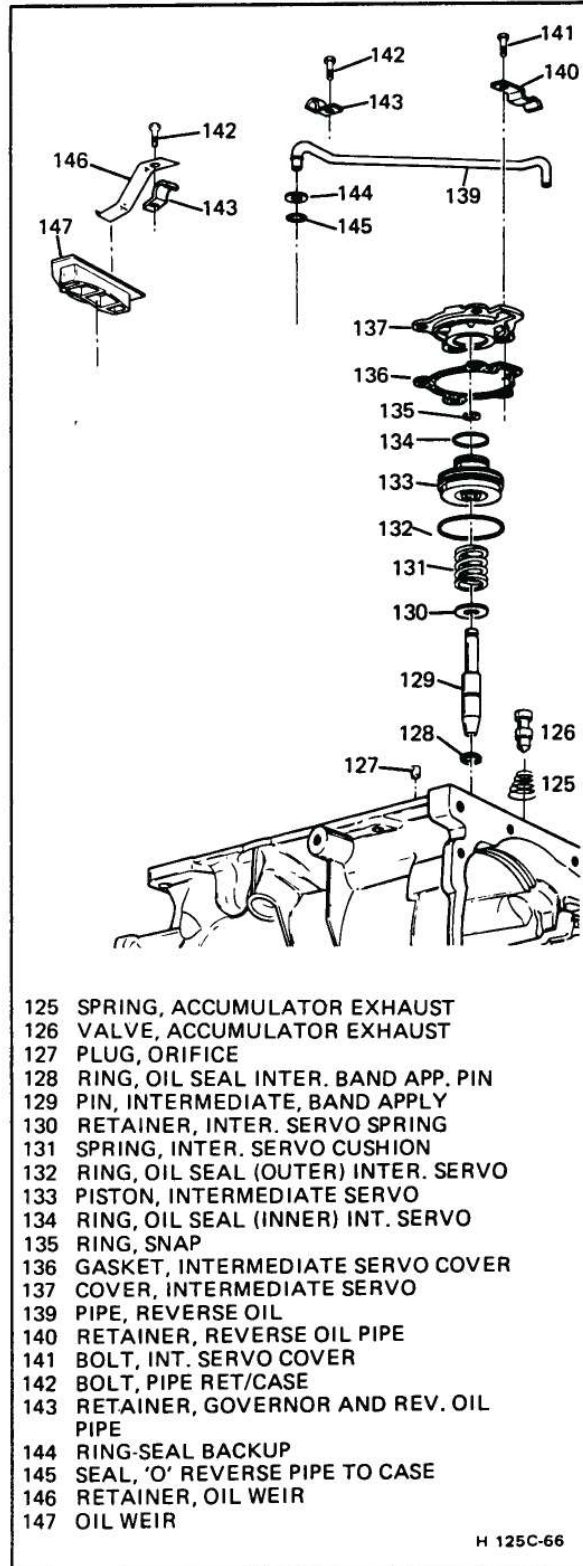

Figure 6 Oil Pipes & Servo Assembly
1. Install J-28535 on case (112) and pin (129) into the gage.
- If the white line does not appear, select another length pin. (Figure 6) Repeat procedure.